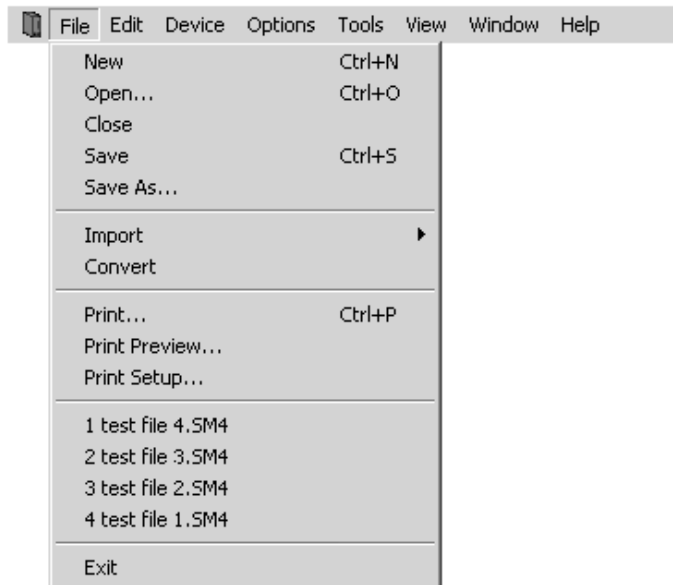

Figure 8: File Menu
- Press ALT and press the underlined letter in the menu name. Then press the underlined letter in the option name. For example, to open a new configuration file, press ALT and press F to open the File menu. Then press N for New, see Figure 8.
The File menu on the Menu Bar contains many different options for file handling (i.e., saving files, importing files, etc.). Figure 8 below shows the File menu expanded.